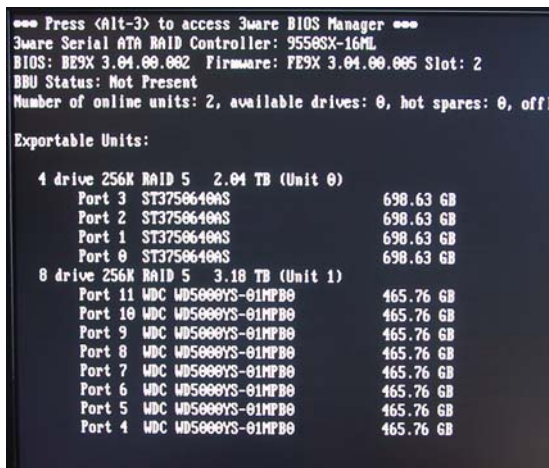
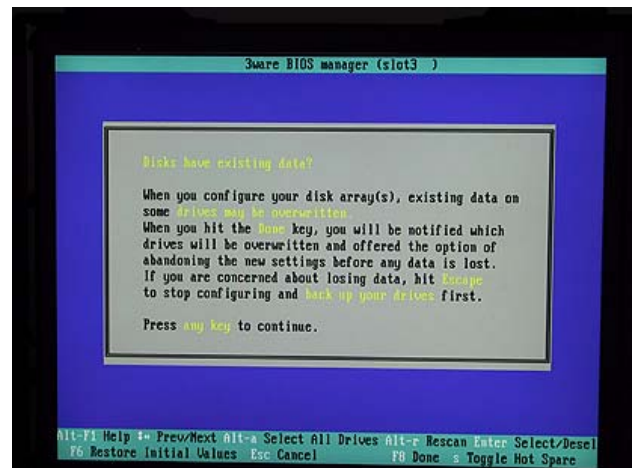

Figure 6-1
Figure 6-2
The discussions in this section assume that you have an existing system disk and – for one reason or another – need to setup your TeraPac 3 RAID array from scratch. For the purposes of this example, we have the TeraPac 3 connected to a MaxPac 8230; a similar procedure applies to a MaxPac 9200 / 9210. The 3ware BIOS will report the presence of both the internal and external arrays, which – in this example – comprise four and eight drives, respectively, as illustrated in Figure 6-1.
- 1) Start to power-up the system. When you see the BIOS message "<Alt-3> to access 3ware BIOS Manager" (Figure 6-1) press and hold the <ALT> (alternate) key and – while still holding this key – press the number "3" key. This will invoke the 3ware BIOS manager; in most cases, you will be presented with a warning screen as shown in Figure 6-2.